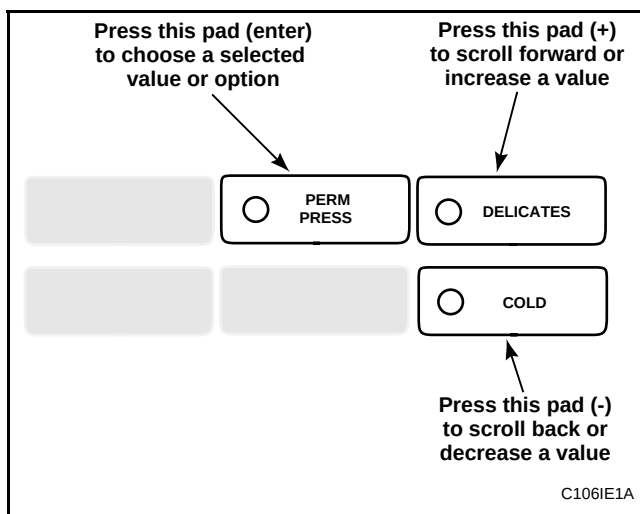

Figure 69
5. Press the DELICATES (+) or the COLD (-) keypad to increase or decrease the current number of minutes displayed in the VFD to the desired number of minutes. See **Figure 69**.